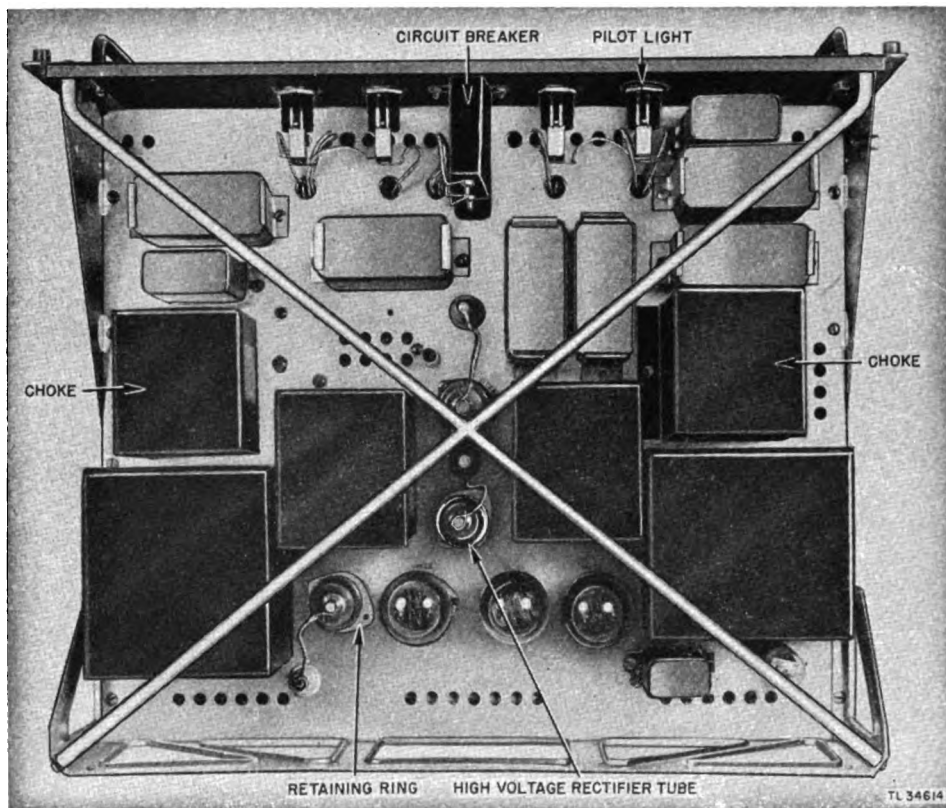

Figure 19. Power supply chassis—top view.
(4) Place unit on workbench.
(5) The various parts within the chassis of the power supply are now accessible for maintenance.
a. LOCATION (fig. 19).